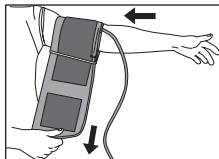

Fig. 3
2. Slide the cuff cylinder onto your left arm and align the artery mark over the main artery on the inside of your arm, Fig 3.